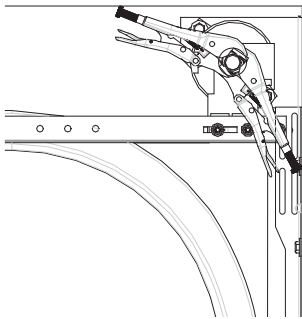

Fig: 3.7.2
- a) Secure the torsion bar using 2 pipe wrenches as shown in Fig 3.7.2.